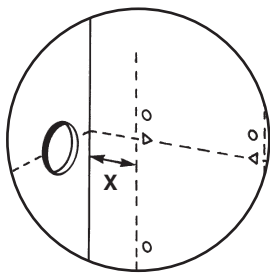

Fig. 37
1. For both Left and Right Hand Flue - Measure the distance from the wall to the nearest line marked from the template. This will be known as dimension **X** (Fig. 37).